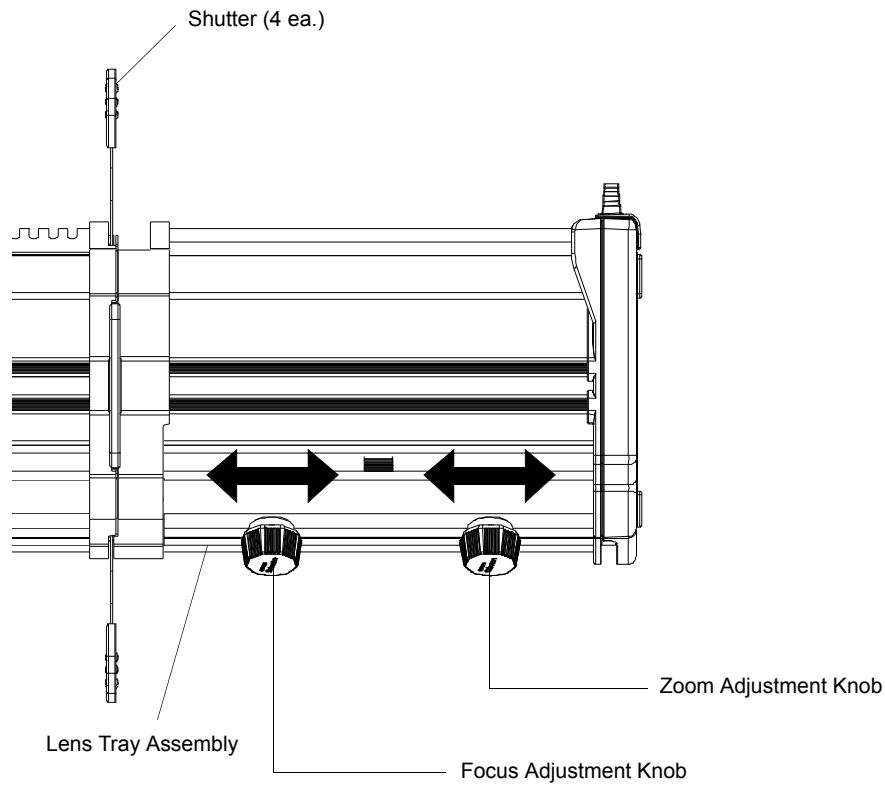

Figure 8: Zoom and Focus Adjustment Knobs
- Step 2. As shown in Figure 8, loosen Zoom Adjustment Knob and set beam angle as desired.